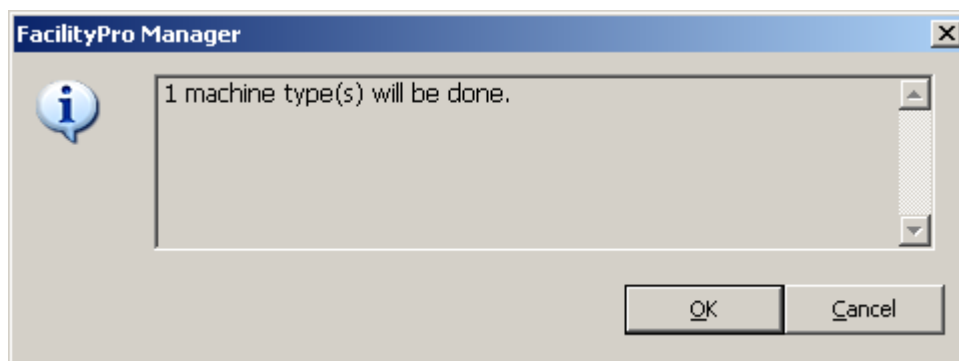

Figure 4-21
7. Click **OK**. You will see a dialog screen as in Figure 4-21.